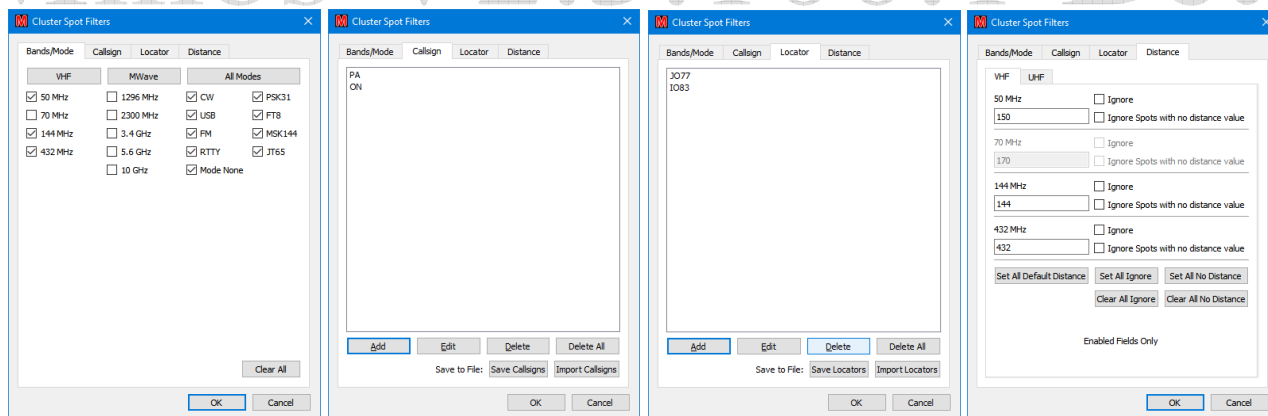

Figure 119 – Setting up filters
The content of the display can be controlled by clicking the “**Filters**” button and adjusting the Band/Mode of interest or the callsigns/locators to be watched¹²² and the distance constraints (see Figure 119).
The Distance filters further restrict the spots displayed on the basis of the specified ranges. Note in Figure 119 (4) that the 70MHz box is disabled because 70MHz is not selected in in Figure 119 (1).